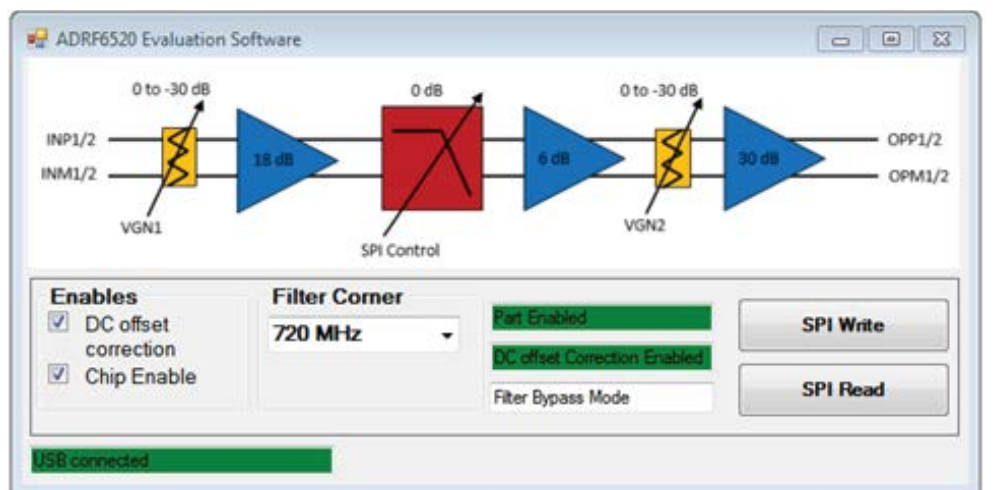

Figure 6. Setting the **Filter Corner** Option
11. In the GUI, click both of the enable check boxes and select **720 MHz** in the **Filter Corner** dropdown menu. Then click the **SPI Write** button (see Figure 6).